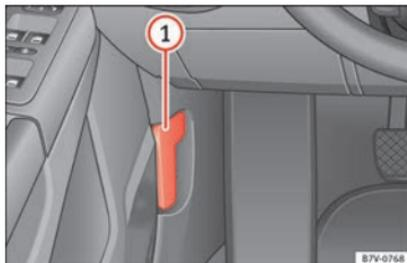

Fig. 238 In the footwell on the driver side: Lever for unlocking the bonnet
- Pull the release lever »» **Fig. 238** in the direction of the arrow. The bonnet is released from the lock carrier by a spring mechanism »» ⚠.